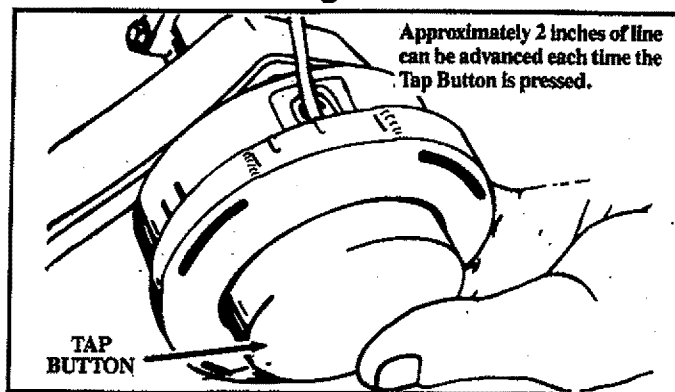

Figure 3
- Line up the hole in the Dust Cup with the hole in the Bearing Housing by turning the Dust Cup. Figure 3.
- Insert the Phillips screwdriver into the aligned holes to keep the Arbor Shaft from turning. Figure 3.
- Press the Tap Button and pull 4 inches of line from the Trimmer Head. Figure 3. About 2 inches of line can be advanced each time the Tap Button is pressed.